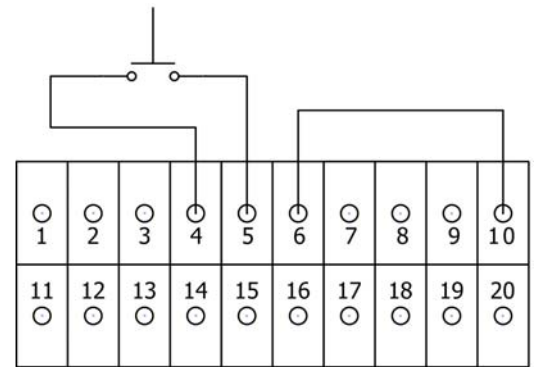

Figure 18. 12VDC Internal
- a. Connect the green jumper wire (supplied) to terminals 6 & 10 (see Figure 18).